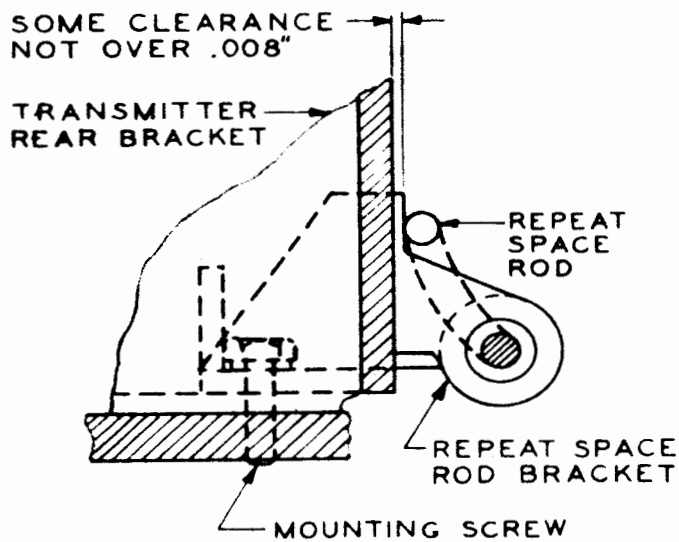

Figure 18A — One-piece Repeat-space-rod Bracket
(1) On units equipped with one-piece repeat-space-rod bracket, the spacebar is depressed until its keylever bottoms lightly in the two front selector bars and the upper portion of the repeat-space rod is resting against its bracket. See Figure 18A.